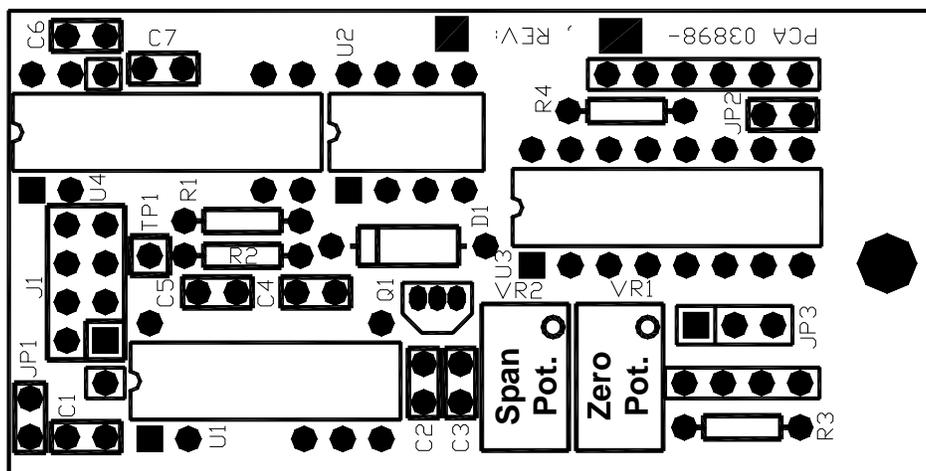

Figure 8-2 Location Current Output Adjustment Potentiometers
4. At this point the analog output should read somewhere near 4.0mA. Adjust the "Zero" potentiometer on the 4-20mA PCA (See Figure 8-2) as necessary.
- The display will then show "A100" (four times). Adjust the "Span" potentiometer (See Figure 8.2) as necessary.